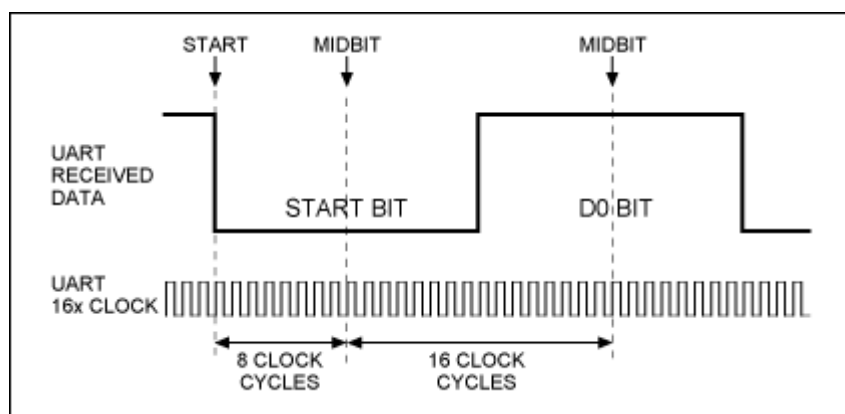
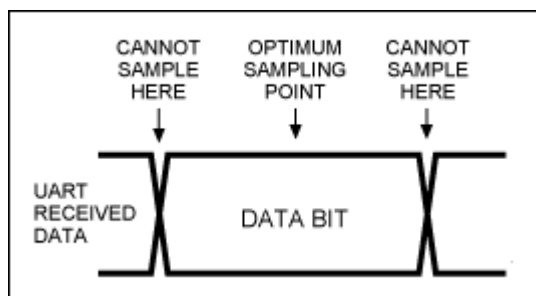

Figure 2. UART receive frame synchronization and data sampling points.
Figure 3. UART receive sampling range.
**Figure 2** shows a common method used by a UART receiver to synchronize itself to a received frame. The receive UART uses a clock that is 16 times the data rate. A new frame is recognized by the falling edge at the beginning of the active-low START bit. This occurs when the signal changes from the active-high STOP bit or bus idle condition. The receive UART resets its counters on this falling edge, expects the mid-START bit to occur after 8 clock cycles, and anticipates the midpoint of each subsequent bit to appear every 16 clock cycles thereafter. The START bit is typically sampled at the middle of bit time to check that the level is still low and ensure that the detected falling edge was a START bit, not a noise spike. Another improvement is to sample the START bit three times (clock counts 7, 8, and 9, out of 16) instead of sampling it only at the midbit position (clock count 8 out of 16).
When do we get a timing error due to transmit-receive clock mismatch? Our goal is to sample each bit at the midpoint (Figure 2). If we sample one-half a bit-period too early or too late, we will be sampling at the bit transition and have problems (**Figure 3**).